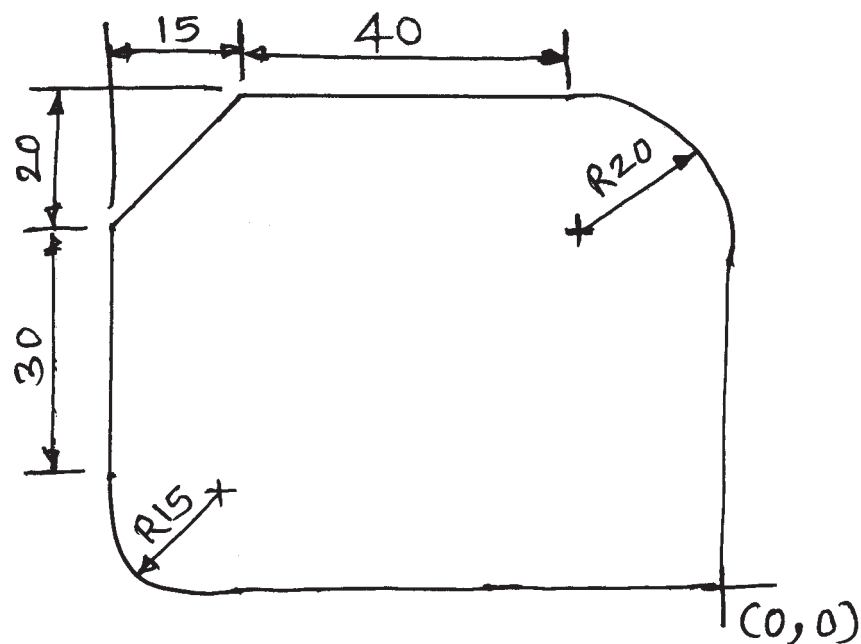

Fig. No. 2
- b) Prepare the Part Program for the job shown in Fig. No. 2.